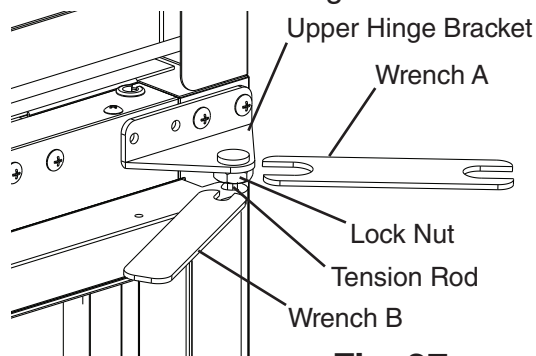

Fig. 27
- 3) At the upper hinge bracket, place wrench B on the tension rod and hold (prepare for tension pressure), then using wrench A, loosen the lock nut. See Fig. 27.